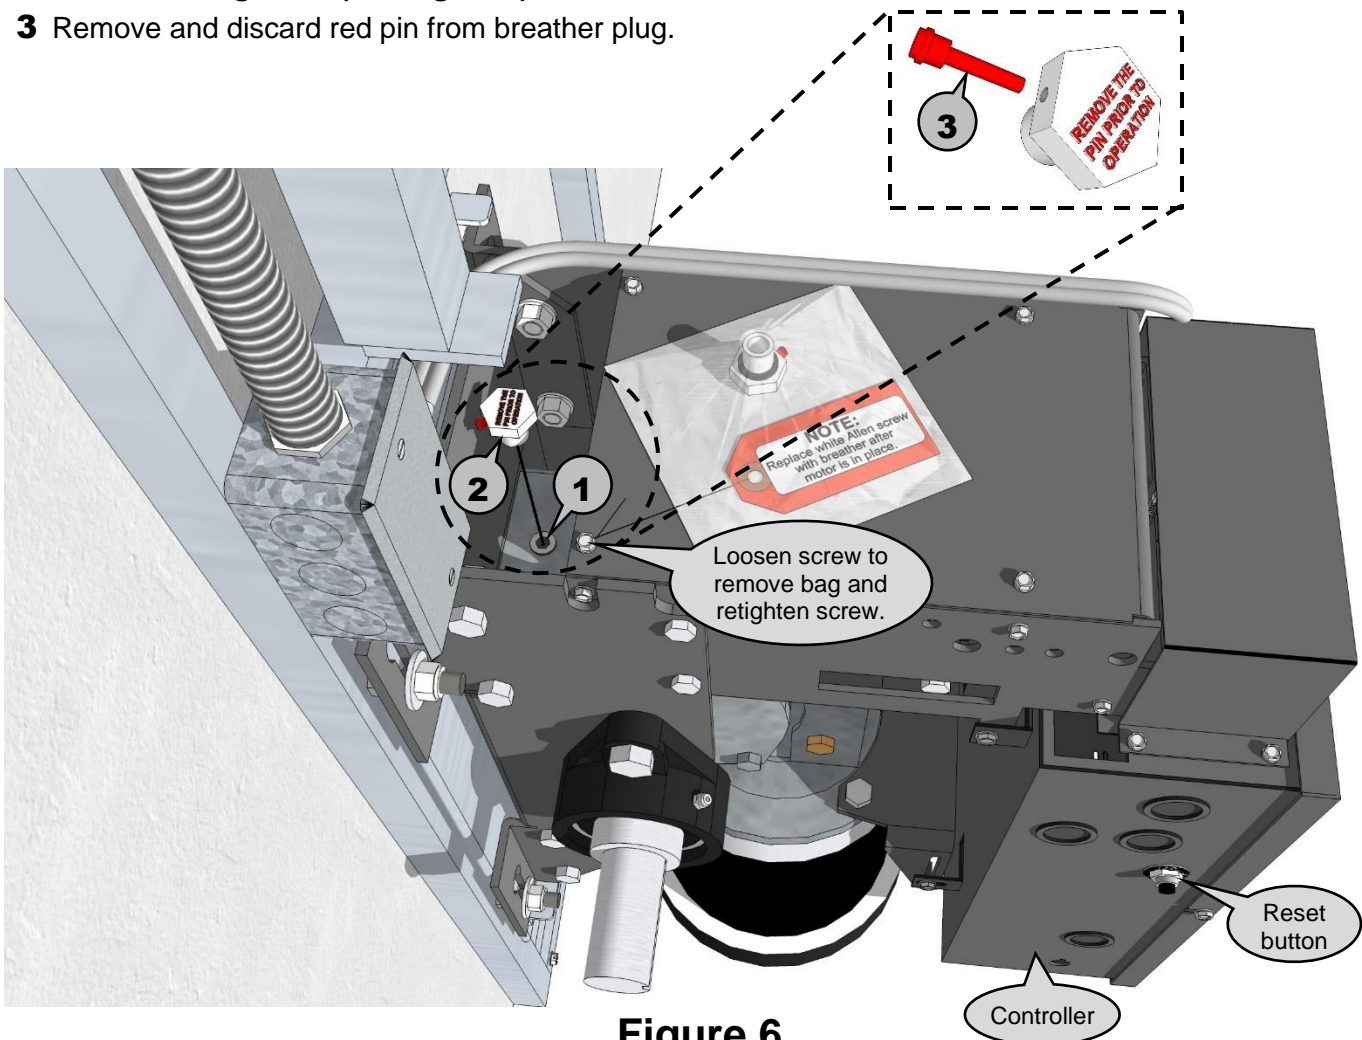

Figure 6
Note: The breather plug is shipped in a bag attached to a screw on the brake cover. (see Figure 6)
- 1** Remove the factory installed plug using either a 6mm Allen wrench or a 9/16" (14mm) socket. (see Figure 6)
- 2** Install breather plug hand tight or until the rubber "O" ring is seated snugly against the gear box. **Do not overtighten!** (see Figure 6)